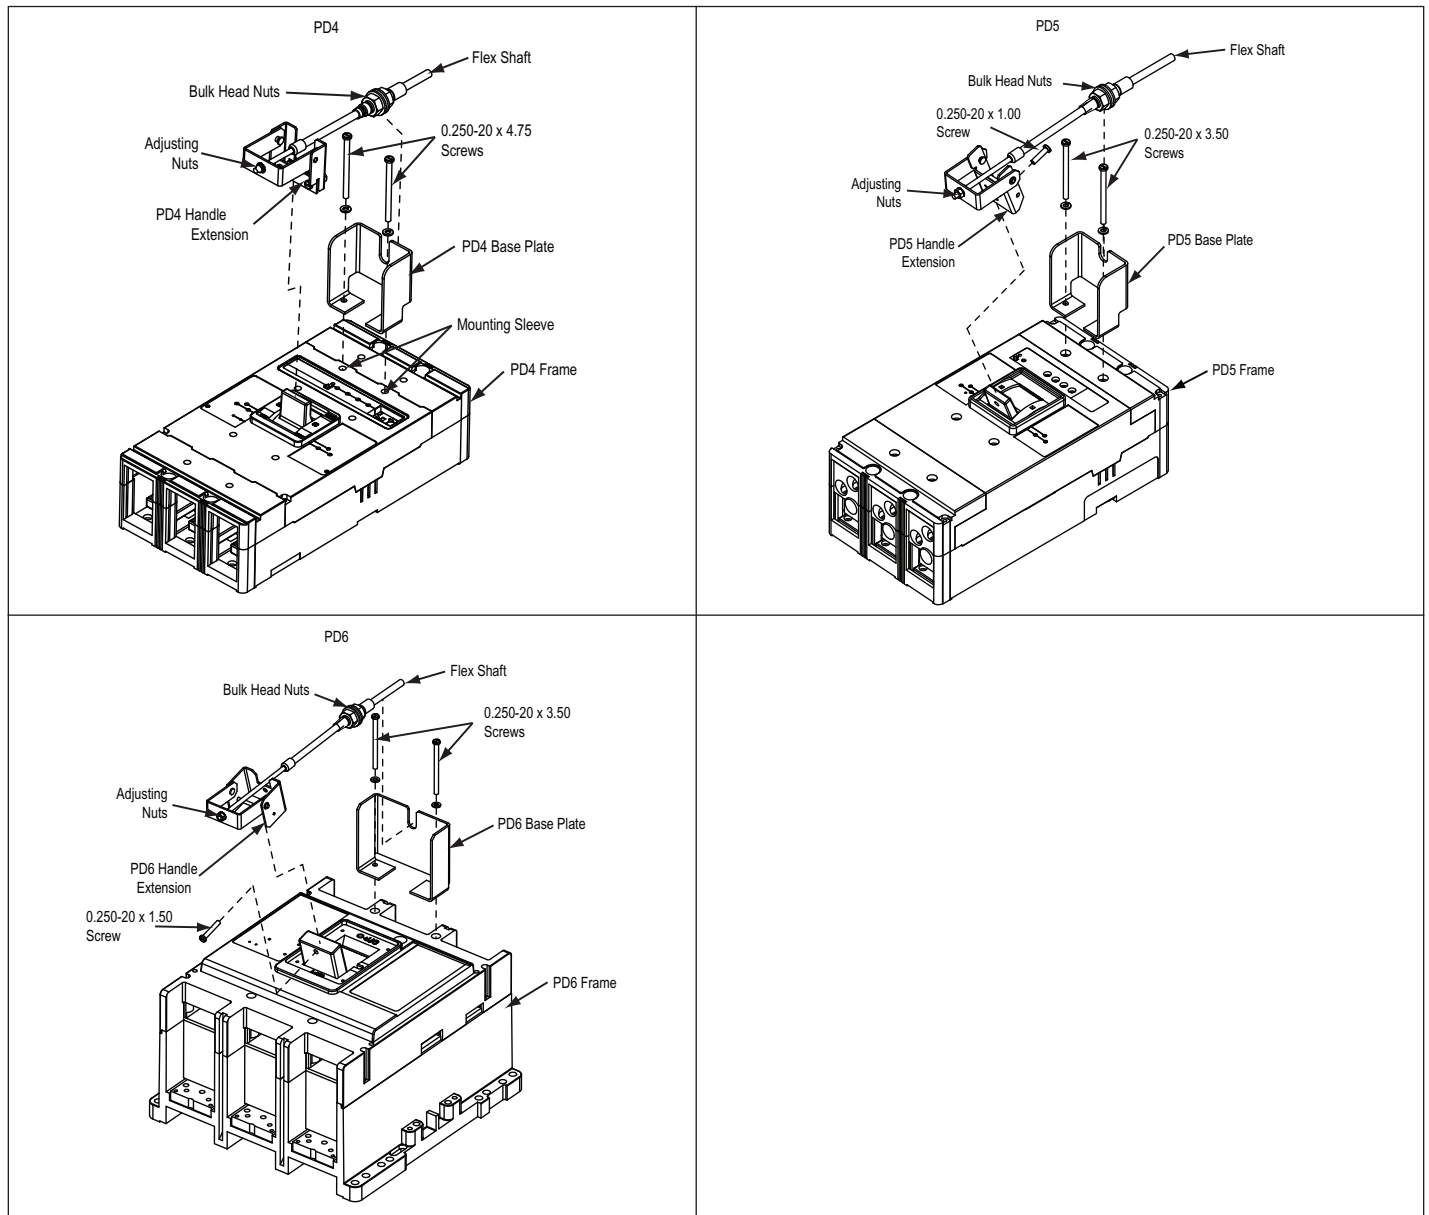
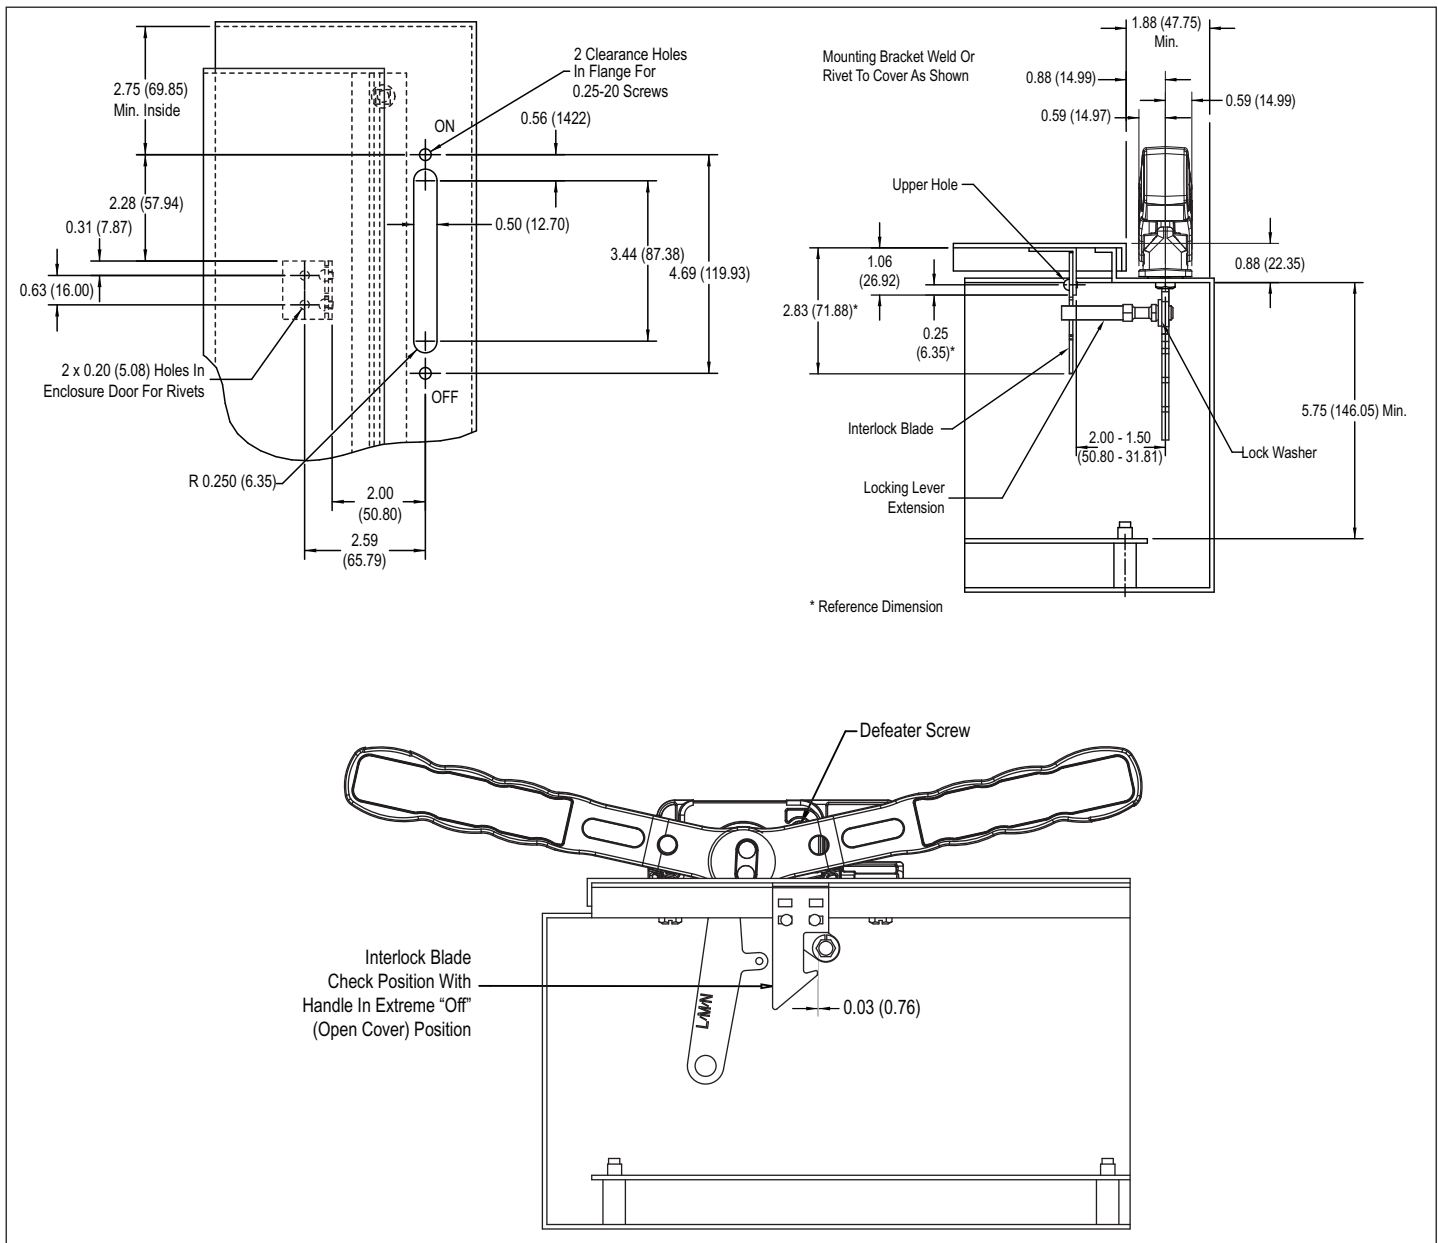

Figure 2. PD4, PD5 and PD6 Mechanism Assemblies.
Figure 3. Flange Drilling Plans for Handle and Interlock Blade Mounting Dimensions.
**PD4 :** Attach the load end of the breaker to the enclosure using hardware from the hardware kit. Attach the base plate to the load end cover of the breaker. The load end cover screws are replaced with the two 0.164-32 x 2.250" screws, lock washers, and mounting sleeves enclosed (see Figure 2 for illustration).
**PD5:** Attach the load end of the breaker to the enclosure using hardware from the hardware kit. Attach the base plate to the circuit breaker using the 0.250-20 x 3.500" screws and lock washers enclosed in the parts kit at the load end of the breaker after removing the two load cover screws located between the trip unit and the two load end mounting holes (see Figure 2 for illustration).
**PD6:** Attach the load end of the breaker to the enclosure using the hardware from the hardware kit. Attach the base plate to the circuit breaker using the 0.250-20 x 3.750" screws and lock washers enclosed in the parts kit at the load end of the breaker (see Figure 2 for illustration).
handle extension assembly onto the breaker handle and secure as shown on Figure 2.
8. Actuate the outer handle positions ("ON", "OFF", and "RESET"). If minor adjustments are necessary, refer to the following adjustment checklist and Figure 2. Install the appropriate door hardware (supplied); as referenced on Figure 3.